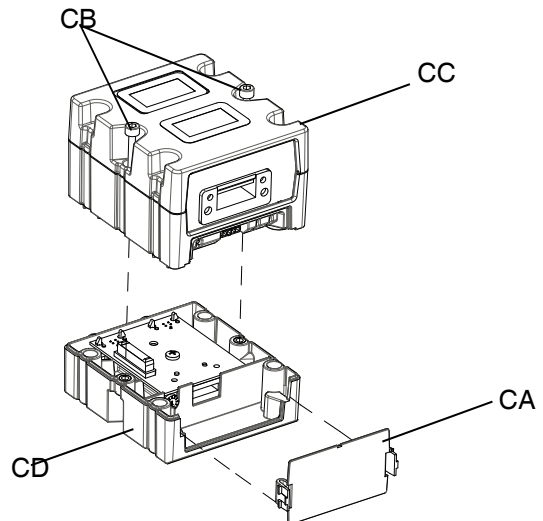

FIG. 38: Disassembling the CGM
5. Remove the access cover from the CGM (CA). Loosen the two screws (CB) and remove the CGM (CC) from the base (CD) as shown in FIG. 38.